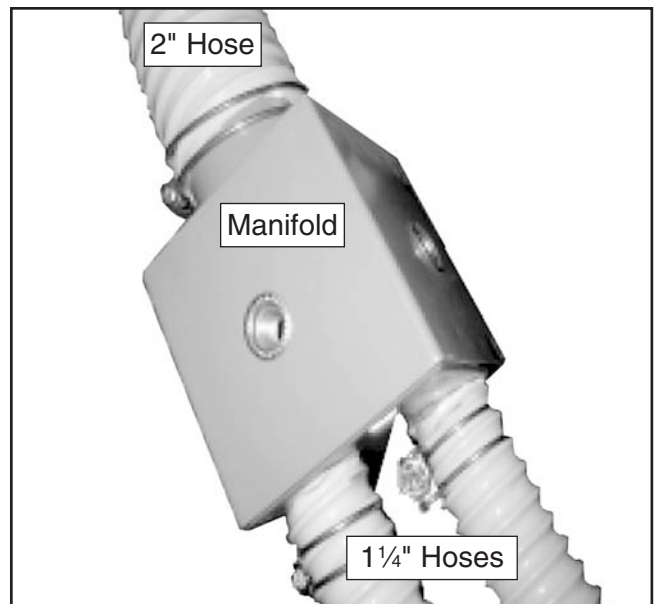

Figure 45. Vacuum hoses attached to the vacuum manifold.
51. Use the 2" hose clamps to attach one end of the 2" x 39" vacuum hose to the cyclone vacuum port and the other end to the vacuum manifold (see **Figure 45**).
52. Connect the vacuum hoses between the vacuum manifold and the collection drum vacuum ports with (4) 1¼" hose clamps (see **Figure 45–46**).